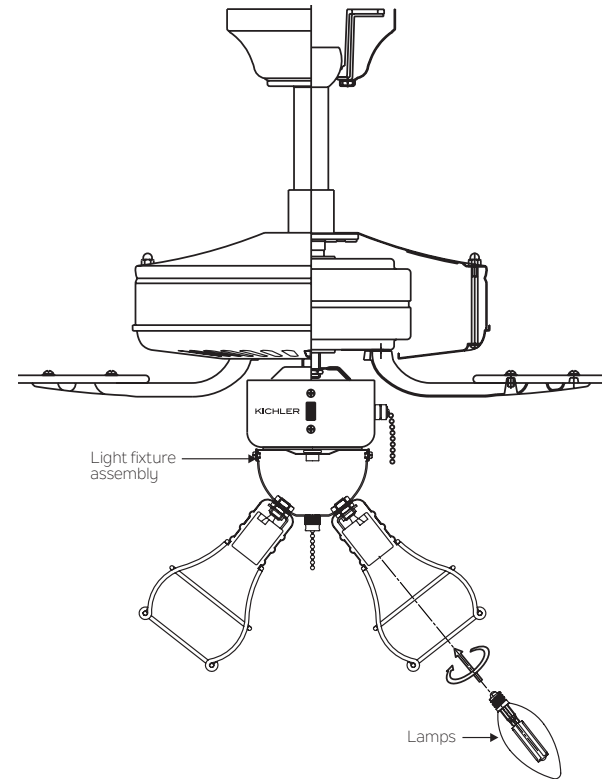

Fig. 3
1. Install 3, 4 watt E12 LED lamps (provided), one in each fixture socket. (Fig. 3)